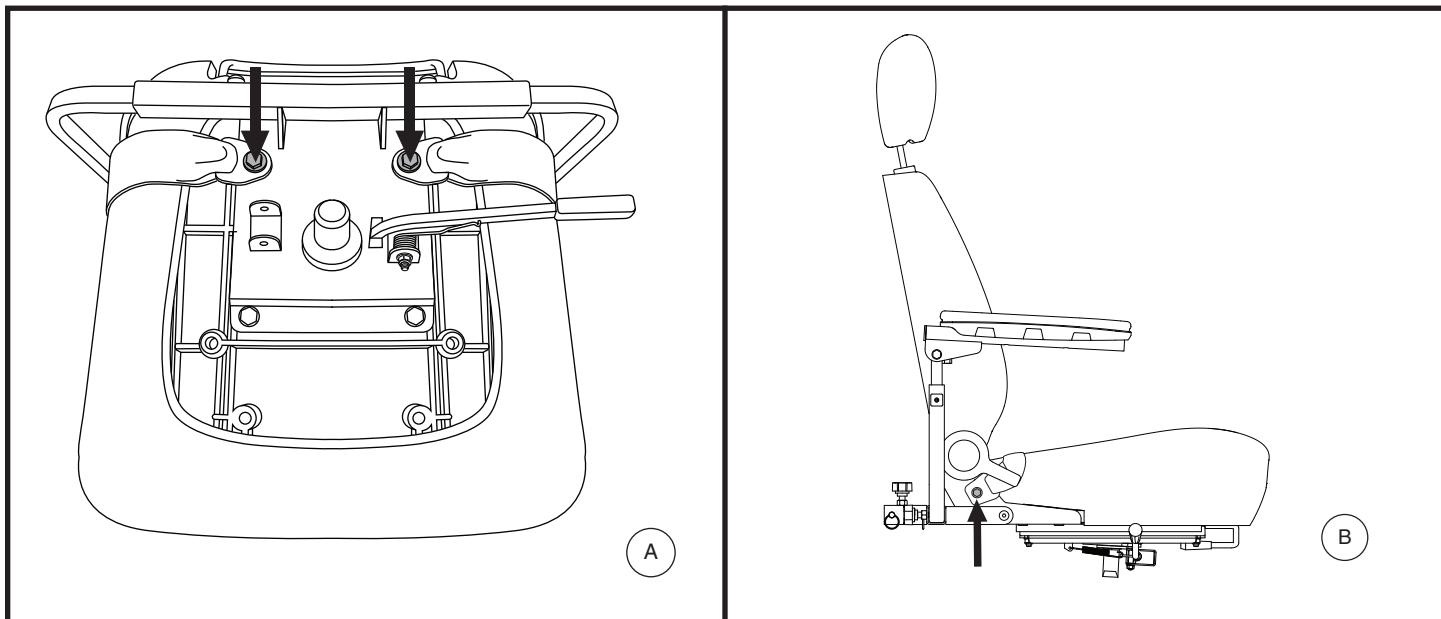

Figure 17. Positioning Belt Bolts
Your scooter seat may be equipped with a positioning belt that can be adjusted for operator comfort. See figure 17. The positioning belt is designed to help support the operator so that he or she does not slide down or forward in the seat. The positioning belt is not designed for use as a restraining device.
2. Place the seat upside down so that you can see the bottom of the seat base. See figure 17.